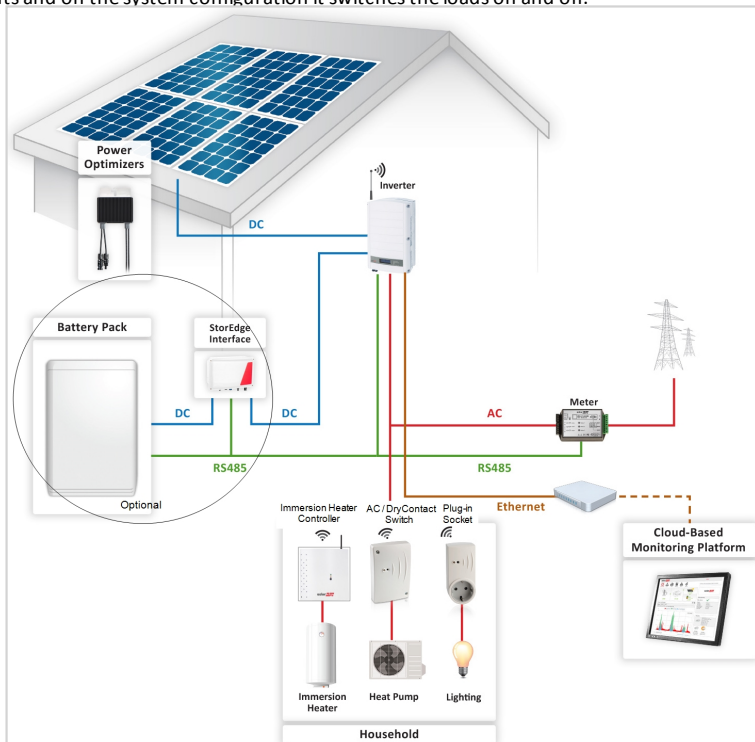

Figure 1: SolarEdge system with Device Control products
6. Press the association button on the Plug-in socket (see *Figure 1*).